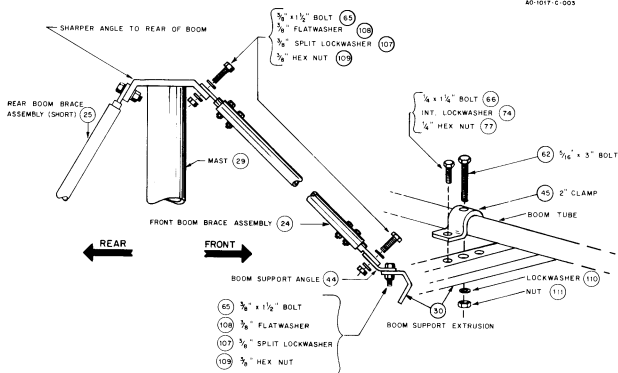

Figure 2-3. Boom Braces
Refer to Figure 2-3 for attachment of the boom braces (items 24 and 25) to the boom support and the mast assembly.
Fasten the four boom support angles (item 44) to the extrusions (item 30) as shown in Figure 2-3 using the $\frac{3}{8}$ " x $1\frac{1}{2}$ " hardware (items 65, 109, 108, & 107).